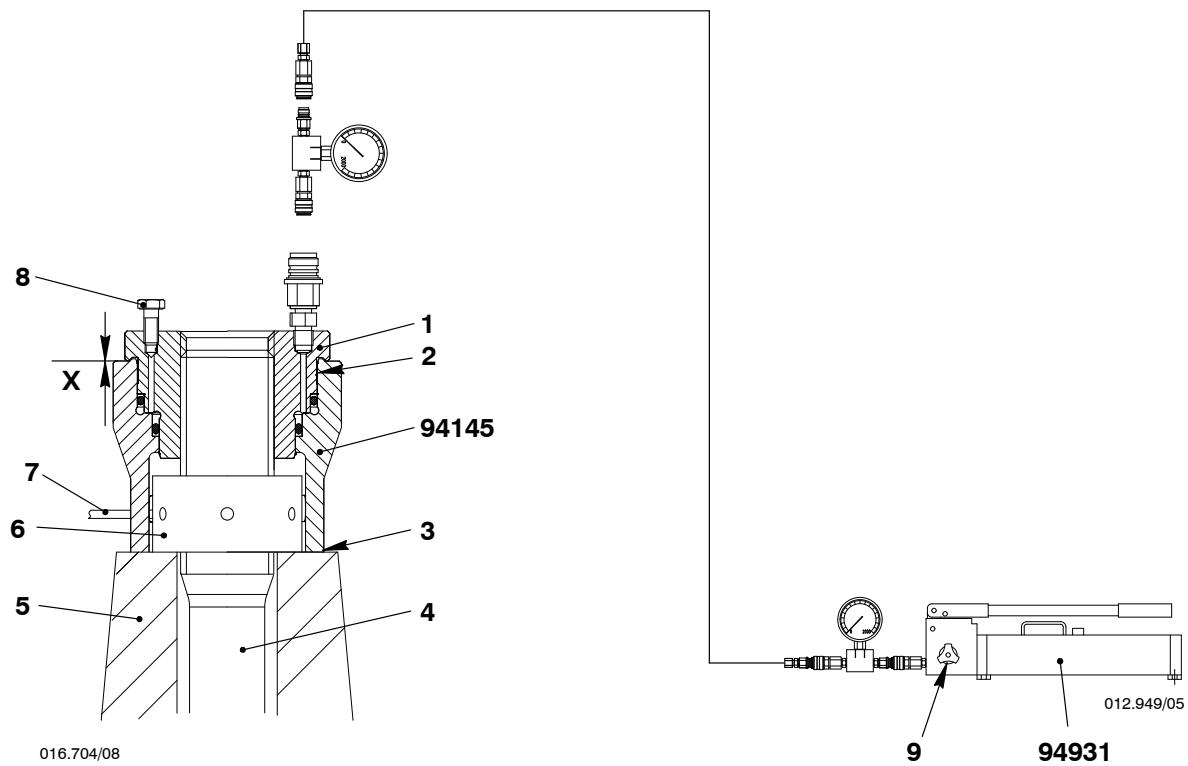

Fig. 3:
- 2) Connect the pre-tensioners (94145) to the hydraulic pump (94931, Fig. 3), refer to 9403-4, paragraph 2.1 Version 1.
- 1) Clean the threads of the foundation bolts (4, Fig.3) and the seating surfaces.
- 2) Attach the pre-tensioner (94145) to the foundation bolt (4).
- 3) Make sure that the vent screw (8) is fully open.
- 4) Make sure that there is little or no clearance at (X).
- 6) Close the relief valve (9)
- 7) Operate the HP oil pump (94931) until oil that has no air flows from the vent screw (8).
- 8) Close the vent screw (8).
- 9) Torque the foundation bolt (4) to 1500 bar and keep the pressure constant.
- 10) Do not move the piston (1) to more than the red limit groove (2).
- 11) Put the feeler gauge (94122) into the slot (3). Do a check for clearance between the round nut (6) and the bush (5).